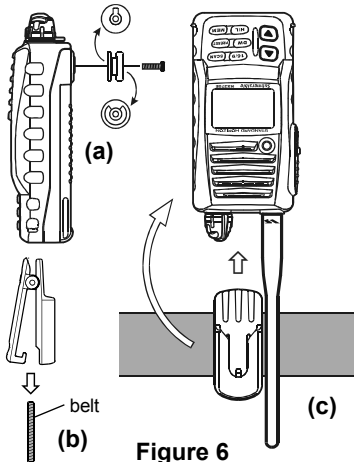

Figure 6
1. Connect the hanger to the rear of the **HX270E**, with the notch pointing directly up, using the supplied screw (Figure 6-a).
2. Clip the Quick Draw Belt Clip to your belt (Figure 6-b).
4. To remove the **HX270E** from the Quick Draw Belt Clip, Rotate the **HX270E** 180 degrees, then slide the transceiver out from the Quick Draw Belt Clip (Figure 6-c).